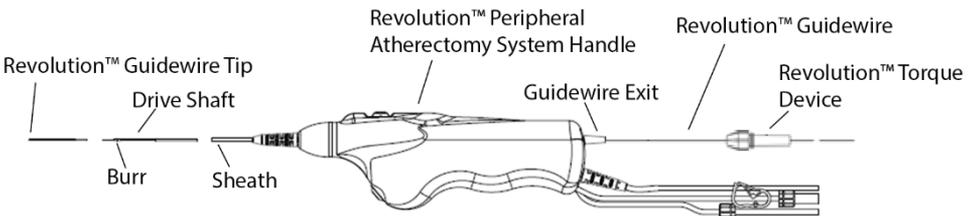

Figure 8: Tighten torque device to guidewire
- Tighten the torque device tightly to the guidewire behind the guidewire exit as shown in Figure 8. Apply tension to the guidewire by gripping the torque device to provide wire support and allow the drive shaft to track easily over the guidewire.